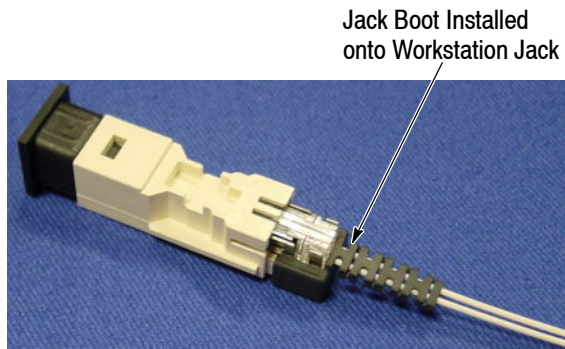

Figure 9
10. For workstation jacks, check to make sure that the fibers are not twisted, then slide the jack boot over the element housing of the jack until it butts against the shoulder. See Figure 9.